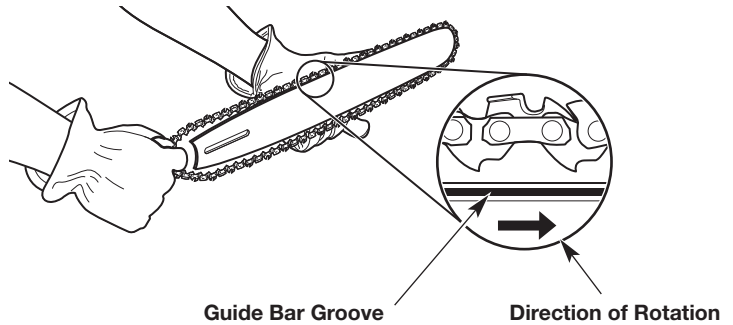

Fig. 30
2. Fit the saw chain into the guide bar groove (Fig. 30). Make sure the cutters point in the correct direction of rotation (Fig. 30). Keep a loop of saw chain at the back end of the guide bar (Fig. 30).